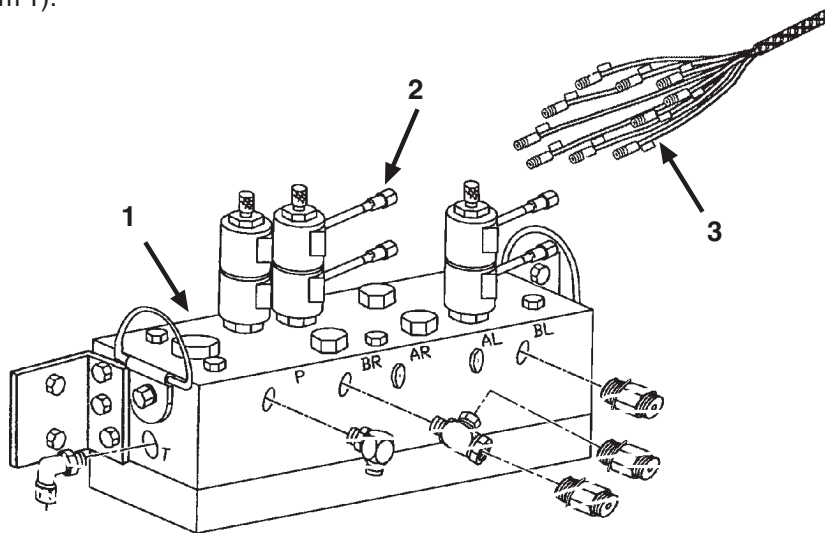

Figure 95. Manifold Wiring Harness Connectors Installation.
Step 2 applies to Figure 95.
2. Route manifold harness (item 3) through hull and attach connectors (item 3) to solenoids at ports Z1, Z2, and Z4 on manifold (item 1).